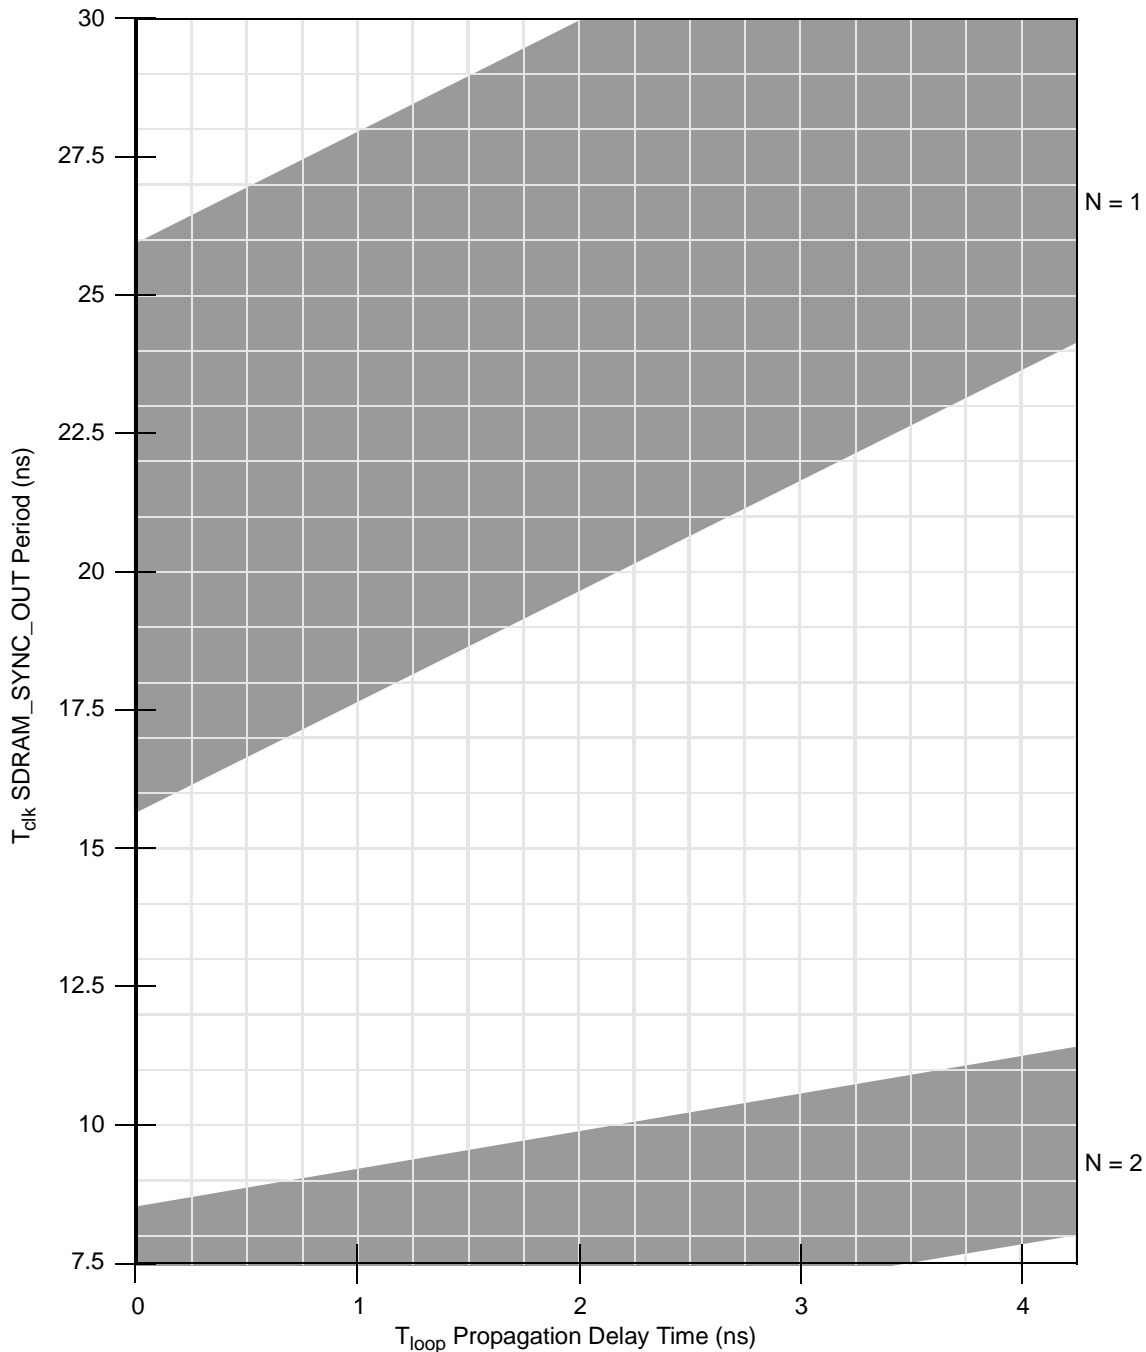
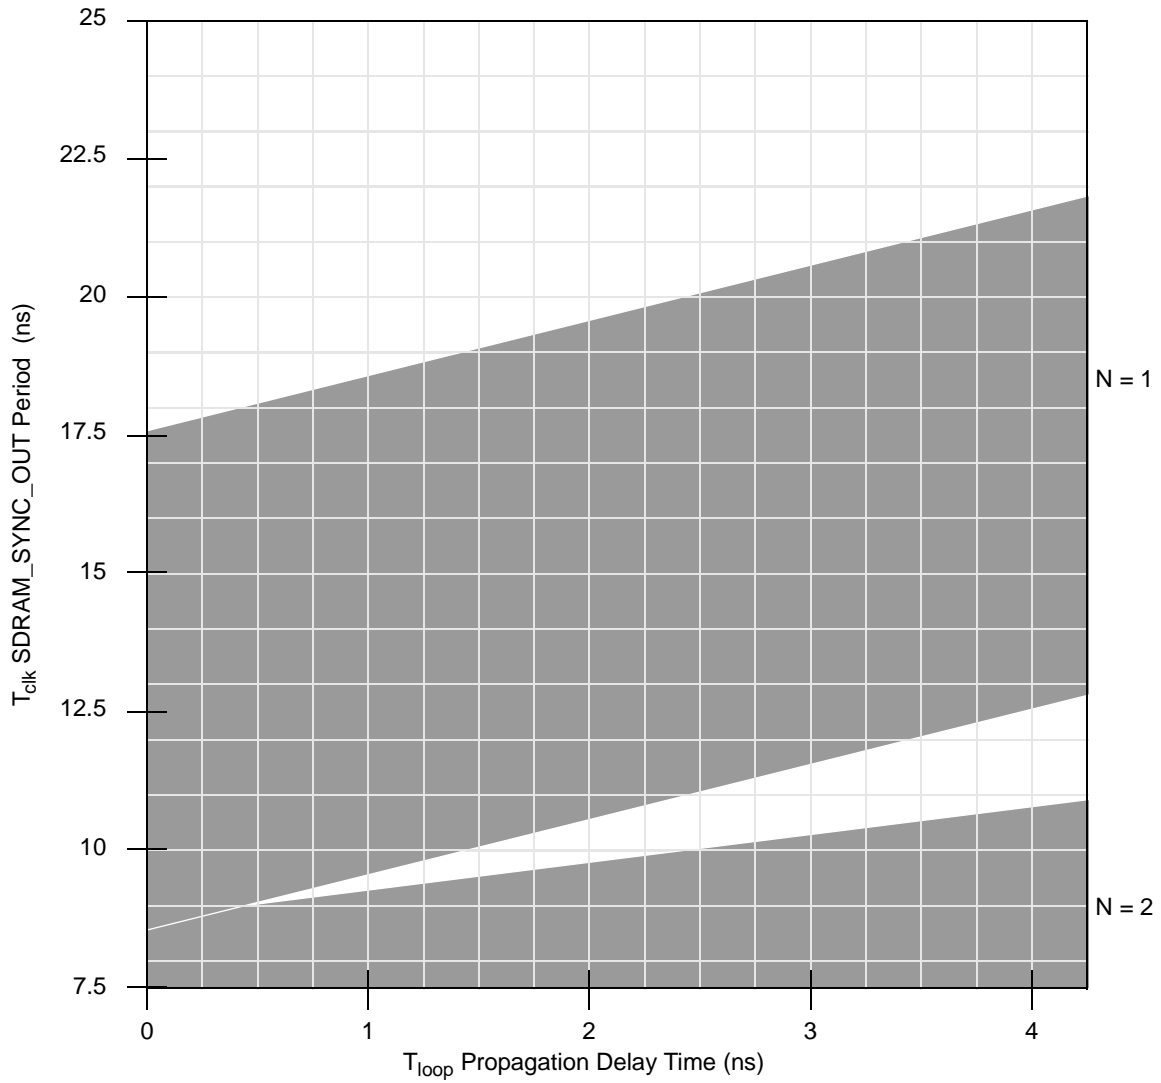

Figure 7. DLL Locking Range Loop Delay vs. Frequency of Operation for DLL_Extend=1 and Normal Tap Delay
Figure 10. DLL Locking Range Loop Delay vs. Frequency of Operation for DLL_Extend=0 and Max Tap Delay
6. DLL_EXTEND is bit 7 of the PMC2 register <72>. N is a non-zero integer (see Figures 5 through 8). T_{clk} is the period of one SDRAM_SYNC_OUT clock cycle in ns. T_{loop} is the propagation delay of the DLL synchronization feedback loop (PC board runner) from SDRAM_SYNC_OUT to SDRAM_SYNC_IN in ns; 6.25 inches of loop length (unloaded PC board runner) corresponds to approximately 1 ns of delay. $T_{dp(max)}$ and $T_{dp(min)}$ are dependent on tap delay. See Table 9 for values of $T_{dp(max)}$ and $T_{dp(min)}$. See Figure 7 through Figure 10 for DLL locking ranges. Refer to Motorola Application Note AN2164, *MPC8245/MPC8241 Memory Clock Design Guidelines*, for more details on memory clock design and an explanation of how T_{dp} is defined.
Figure 7 through Figure 10 show the DLL locking range loop delay vs. frequency of operation. These graphs define the areas of DLL locking for various modes. The grey areas represent where the DLL will lock.
- T_{os} represents a timing adjustment for SDRAM_SYNC_IN with respect to *sys_logic_clk*. Due to the internal delay present on the SDRAM_SYNC_IN signal with respect to the *sys_logic_clk* inputs to the DLL, the resulting SDRAM clocks become offset by the delay amount. The feedback trace length of SDRAM_SYNC_OUT to SDRAM_SYNC_IN must be shortened by this amount relative to the SDRAM clock output trace lengths to maintain phase-alignment of the memory clocks with respect to *sys_logic_clk*. Note that the DLL locking range graphs of Figure 7 through Figure 10 compensate for T_{os} and there is no additional requirement to shorten T_{loop} by the duration of T_{os} . Refer to Motorola Application Note AN2164, *MPC8245/MPC8241 Memory Clock Design Guidelines*, for more details on accommodating for the problem of T_{os} and trace measurements in general.